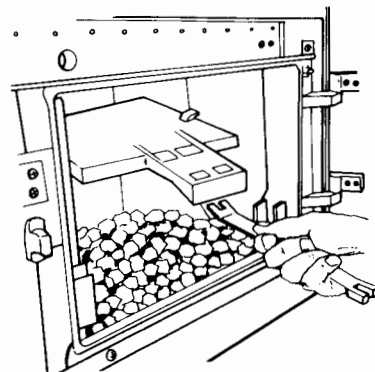

FIG. 6 FLUE CLEANING
- a. Open the firedoors, remove the front firebar and insert operating tool into throat plate front location. Fig. 6.